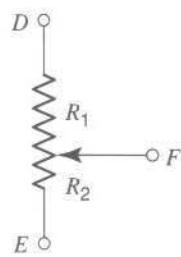

Fig. 6
- 13.** A potentiometer is a voltage divider with a variable division ratio. The symbol for this element is shown in Fig. 6. The total resistance between terminals D and E is constant. The resistance between F and D is R_1 , and that between F and E is R_2 . The arrow represents a slider, which can slide up and down the length of the potentiometer. (Many practical potentiometers have the resistance laid out over part of a circle, and the slider must be rotated rather than moved up and down.) Thus, the values R_1 and R_2 can be varied, while their total resistance, $R_1 + R_2$, stays fixed.¹ In this way, a variable voltage divider can be implemented, as is evident from eq. 4. Use the ohmmeter to study the potentiometer provided to you. Do *not* connect anything else to the potentiometer in this step. Identify the terminals D, E, and F, and determine the minimum and maximum values of R_1 , R_2 , and $R_1 + R_2$.
¹Potentiometers in which R_2 varies in proportion to the slider's displacement from the bottom position in Fig. 6 are called *linear* potentiometers. Another variety is *logarithmic* potentiometers, in which $\log R_2$ is proportional to the above displacement. These are appropriate for use in volume-control circuits because the perception of loudness follows a logarithmic law.